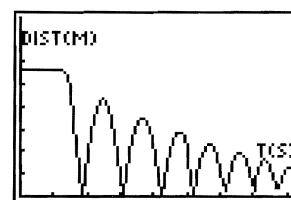

Figure 2:
- 4 Your graph should look similar to the one shown in Figure 2. If you are satisfied with your graph of distance versus time, save it to a PIC variable to be printed later using TI-GRAPH LINK.